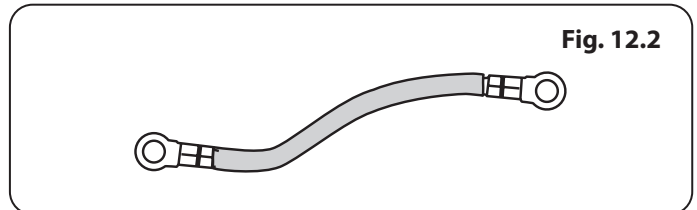

Fig. 12.2
**⚠ Your range is supplied with a ground strap that can be used when connecting to a three wire cord. Consult your electrician before changing the supplied cord kit (Fig. 12.2).**